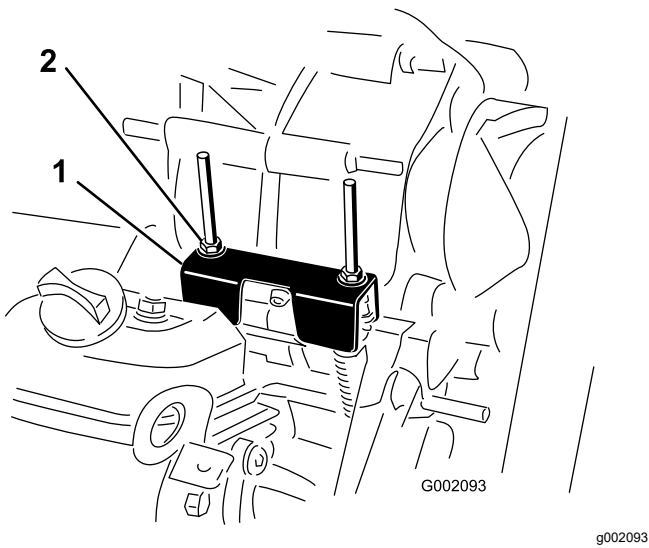

Figure 52
When performing routine maintenance and/or engine diagnostics, you must shift into NEUTRAL (Figure 52). The machine has a NEUTRAL position on the shift lever, which controls the neutral in the transaxle. The following steps should be taken to make sure that the neutral shift lever operates the transaxle neutral correctly:
2. Ensure that the neutral bracket is in the NEUTRAL position (level to the cable mounting bracket located below the shift bracket) by turning the driven clutch (Figure 52).
3. Rotate one of the locknuts (Figure 52) to achieve a 0.762 to 1.524 mm (0.030 to 0.060 inch) gap between the bottom of the nut/washer and the neutral bracket.